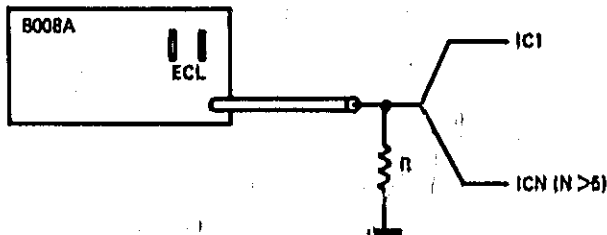

Figure 3-9, Second Solution to Example 1
This configuration is valid when up to 5 ECL devices are fed from the feedthrough. With more than 5, the shunting effect of the IC input resistance ( $\approx 2k\Omega$ ) becomes significant and the configuration of figure 3-9 should be applied. A parallel resistor (R)  $> 50\Omega$  should be used (instead of the 50Ω feedthrough) to bring the total load to 50Ω.